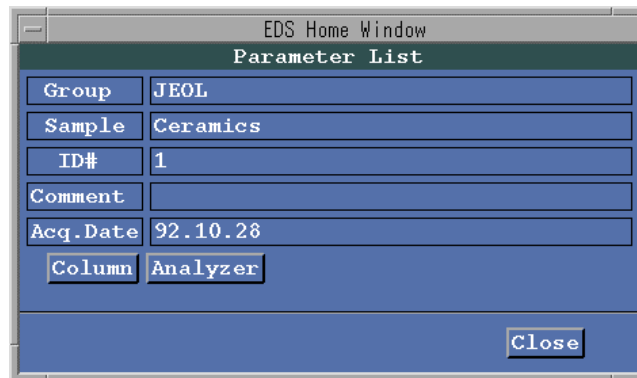

Fig. 11 Parameter List window
- ◆ Select **Parameter List** from the **Operation** menu in the EDS Home Window. The **Parameter List** window opens as shown in Fig. 11. This window shows the supplementary information on the EDS spectrum stored in the front data memory.